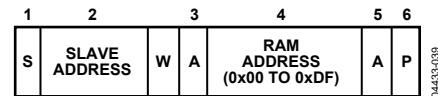

Figure 42. Setting a RAM Address for Subsequent Read
The SMBus specification defines several protocols for different types of read and write operations. The following abbreviations are used in Figure 42 to Figure 50:
- To write a register address to the RAM for a subsequent single byte read from the same address, or for a block read or a block write starting at that address, as shown in Figure 42.